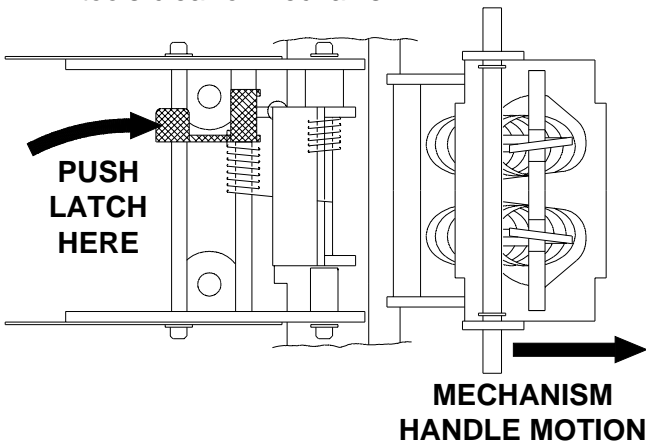

Figure 1. Switch Mechanism
- C. To trip mechanism, strike latch link with a tool (See Figure 1), keeping hands and tools clear of mechanism.